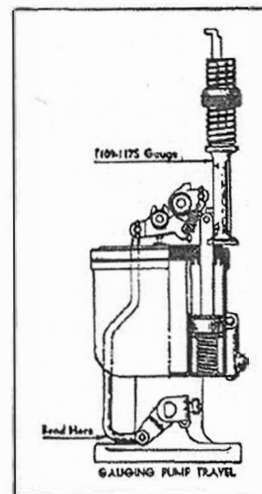

Fig. 6
46. Pump Adjustment: Back out throttle lever set screw. With throttle valve seated, pump should travel 17/64" from closed to wide open throttle. Adjustment can be made by bending throttle connector rod at lower angle with tool T109-41. Pump travel can be measured by using universal pump stroke gauge T109-117S by placing base of gauge on raised portion of bowl cover so that projecting ear of pump gauge rests on top of pump shaft (See Fig. 6). Hold gauge vertical. The difference between the number shown by index mark on gauge, at wide open and closed throttle positions, should be 17.